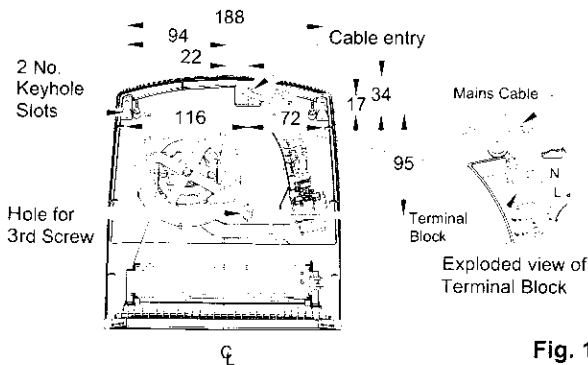

Fig. 1
7. Make electrical connections to the terminal block ensuring that the live connection is made to the terminal marked 'L' and the neutral connection to the terminal marked 'N' (see Fig 1 exploded view).
The appliance is secured to the wall with three screws, two through keyhole slots and one through a centrally positioned lower hole to hold the appliance firmly in position (see Fig 1).